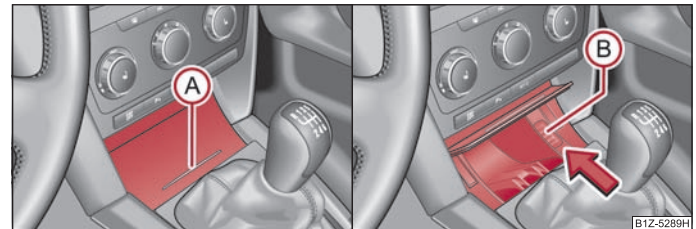

Fig. 83 Centre console: Front ashtray/remove front ashtray insert
- Press on the bottom part of the cover of the ashtray - refer to (A) ⇒ fig. 83. ►